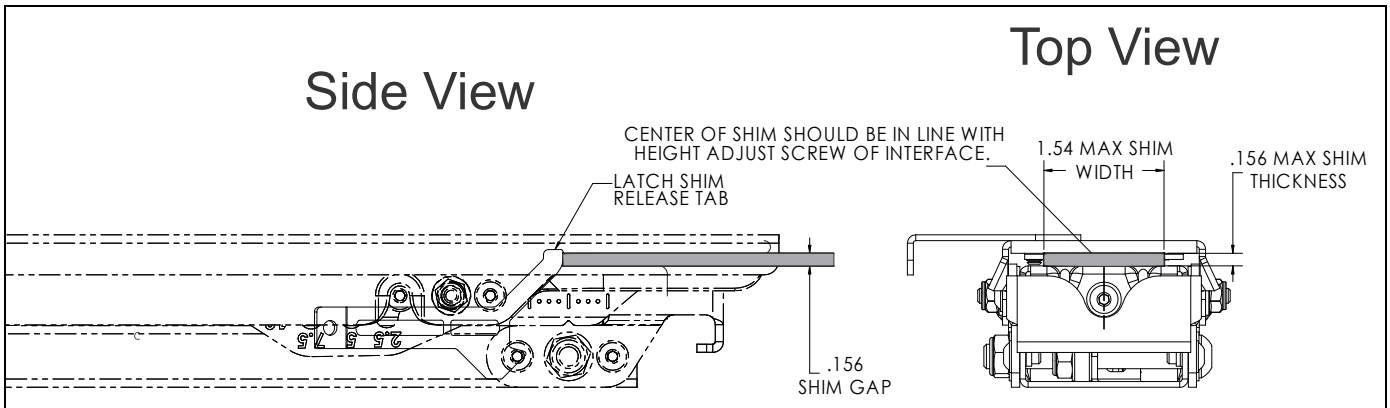
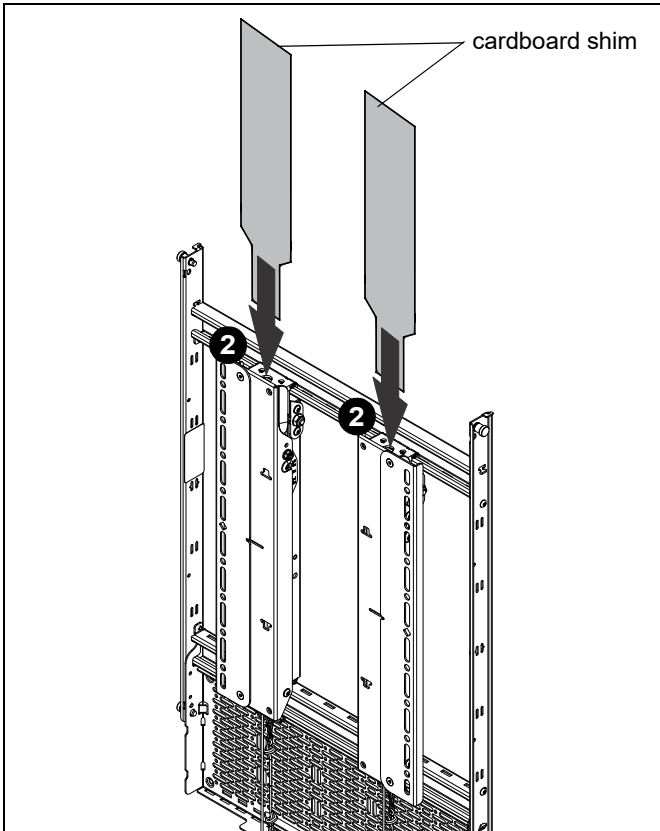

Figure 31
Figure 32
- Place created shim tool down top of each upright and gently push and pull on display while shimming until it releases. (See Figure 31) and (See Figure 32)